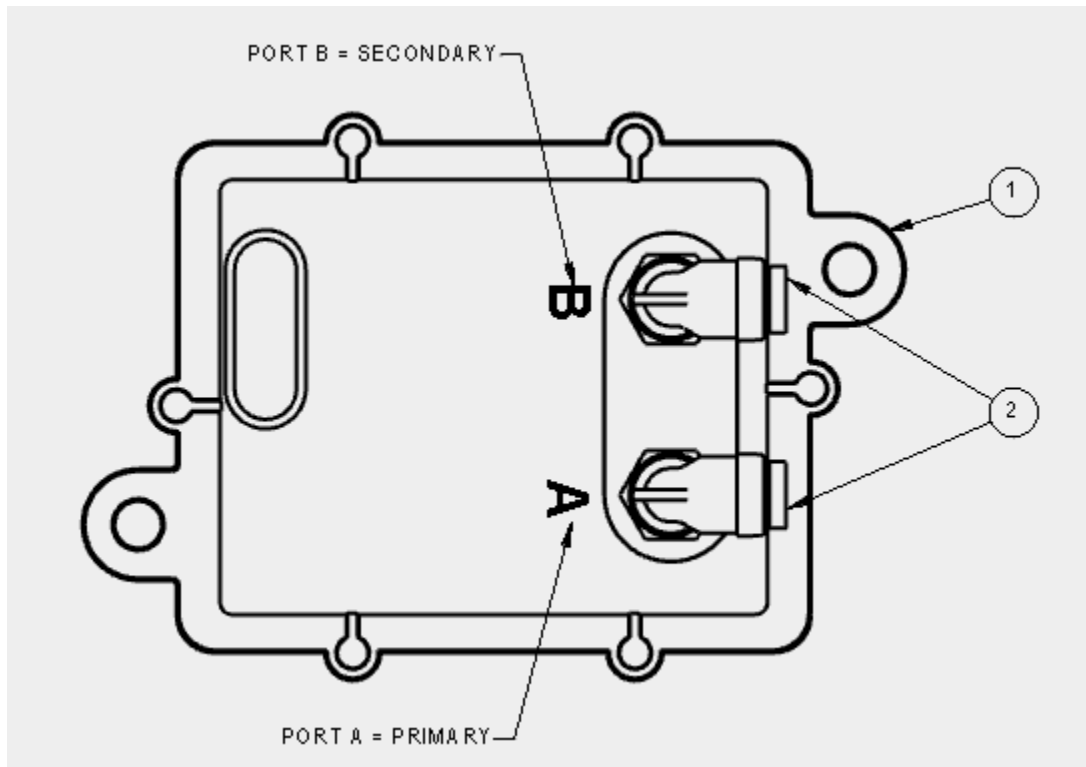

Figure 5.1
9. Disconnect primary and secondary air lines from SDPT module. Note the orientation of the lines to the ports. *See Figure 5.1*